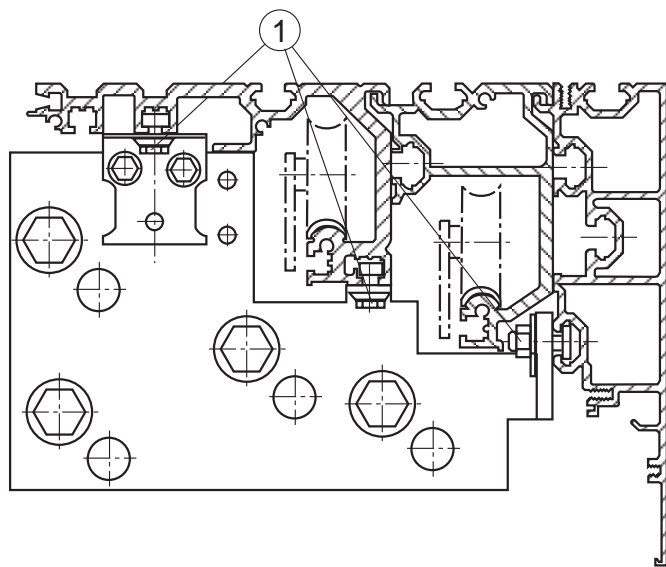
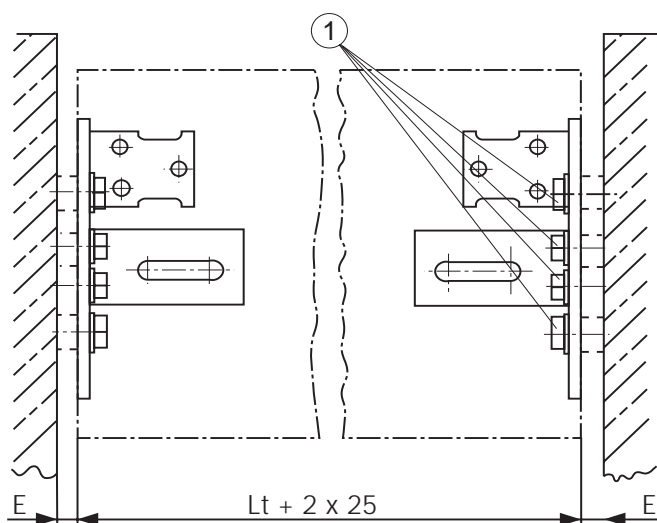

Figure 7
Figure 8
Note: If the "lateral fixing bracket kit" is not already assembled on the head, mount it on the profile as shown in fig. 7.
- Drill holes for the four M10 fixing screws provided (1, fig. 8). Use suitable packing for the spaces E if necessary (fig. 8).
- Check that the two lateral fixing brackets are correctly assembled on the profile with screws as in 1, fig. 7, then fix the head laterally using the screws provided (fig. 8).